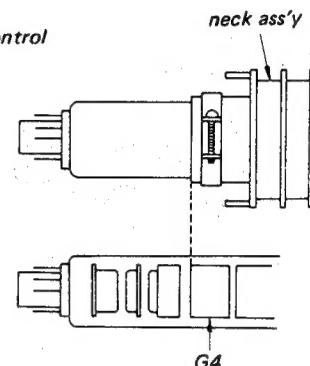

Fig. 1-2.
4. Position neck ass'y as shown in Fig. 1-2.